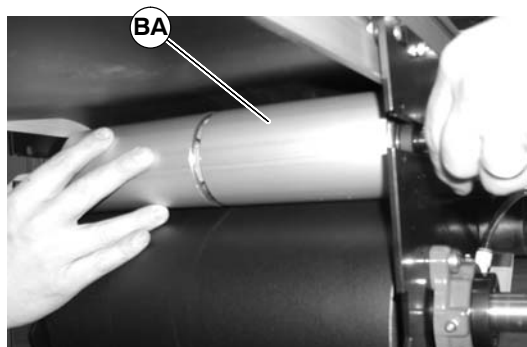

Figure 66
7. Slide out tensioning pulley (BA of Figure 66).